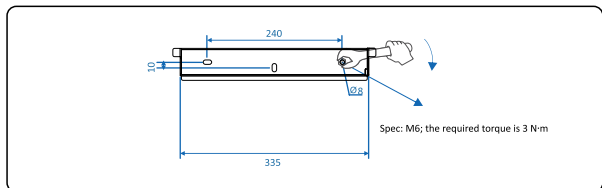

Figure 4.13 Installing the real panel
Step 5 Align the rear panel with the holes, insert expansion bolts into the holes through the real panel, and tighten the expansion bolts to a torque wrench (torque 2-2.5 N·m), as shown in **Figure 4.13**.